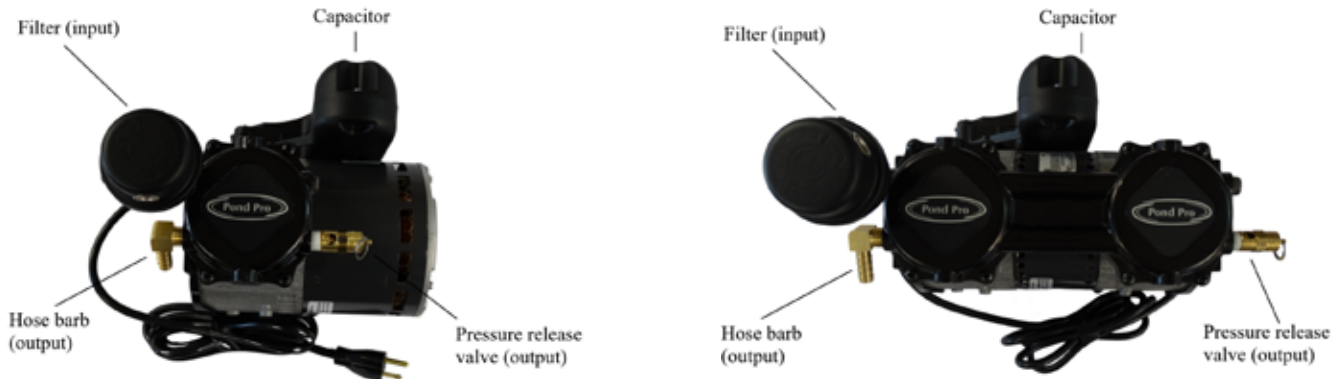

Figure 1: compressors with associated fittings
Remove intake filter from the bag and thread into compressor head. Always install the filter on one of the inlet/intake ports (Figure 1). Keep the other inlet port plugged.
2. Install hose fitting into compressor outlet port (Figure 1).